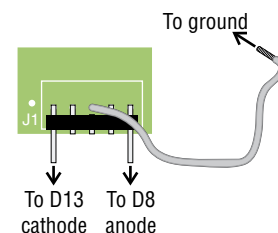

Figure 2. The mute module.
6. From the solder side of the board, insert the two pins of the small RMX mute module (Figure 2) into these holes. Pin 1 of the module's J1 goes into the hole at D13's cathode and pin 5 into the hole at D8's anode. Solder the pins to hold the module in place.